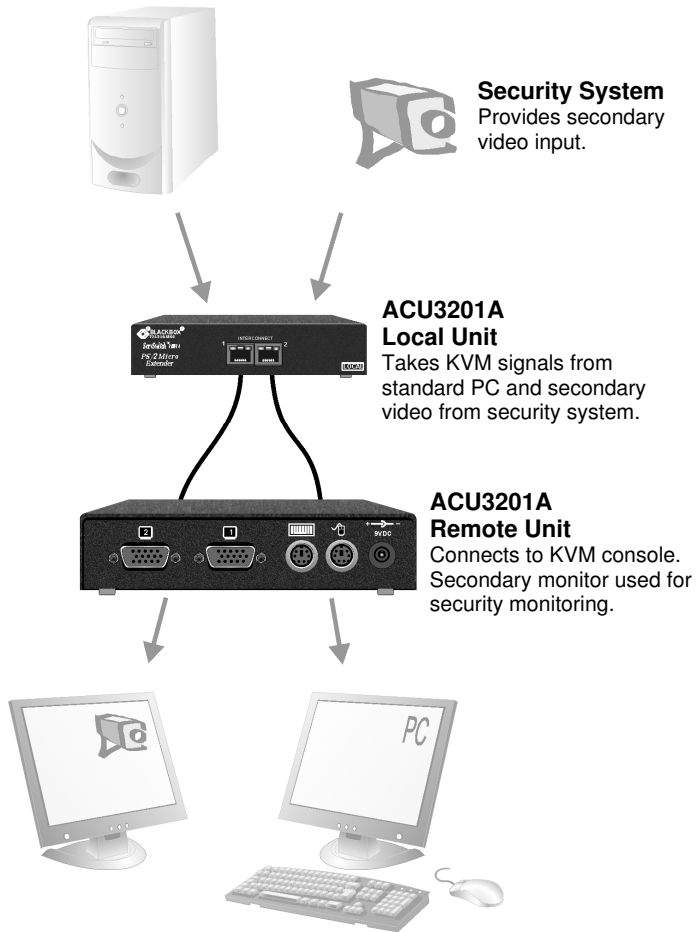

Figure 9
- Extender system with second screen for security monitoring (Figure 9). Requires one ACU3201A kit.